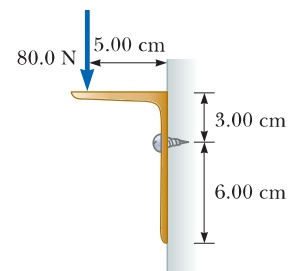

Figure P12.55
55. One side of a plant shelf is supported by a bracket mounted on a vertical wall by a single screw as shown in Figure P12.55. Ignore the weight of the bracket. (a) Find the horizontal component of the force that the screw exerts on the bracket when an 80.0 N vertical force is applied as shown. (b) As your grandfather waters his geraniums, the 80.0-N load force is increasing at the rate 0.150 N/s. At what rate is the force exerted by the screw changing? *Suggestion:* Imagine that the bracket is slightly loose.